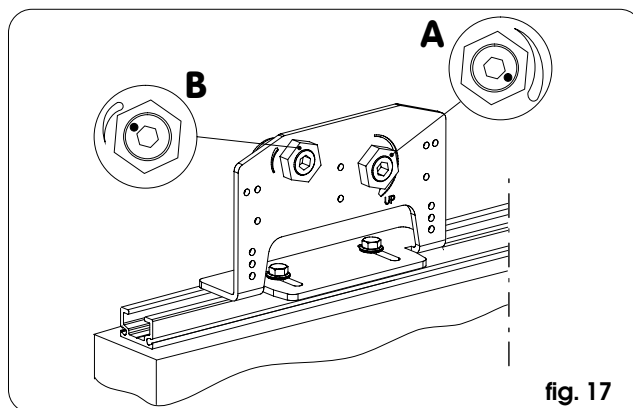

fig. 17
- The following are supplied on each carriage: a sliding wheel in steel with eccentric and relevant adjusting system (ref. A in fig. 17) and anti-tilting nylon roller with eccentric plus relevant adjusting system (ref. B in fig. 17); the permitted height adjustment range for the carriage is +/- 10 mm.
- Release the anti-tilting rollers (ref. B in fig. 17) and locate them at the minimum of permitted adjustment (turning the dowel anti-clockwise).
- Release the sliding wheels (ref. A in fig. 17). Adjust the position of the leaf with the adjusting dowels (if you turn the dowel clockwise, the leaf rises, if you turn it anti-clockwise, the leaf descends) until it is parallel to the floor, checking if the lower guide slides correctly on the sliding block, and then re-lock it.
- Position the anti-tilting rollers (ref. B in fig. 17) so that they almost touch the guide on the support profile, using the relevant dowels (if you turn the dowel clockwise, the roller rises, if you turn it anti-clockwise, the roller descends) and then re-lock them.